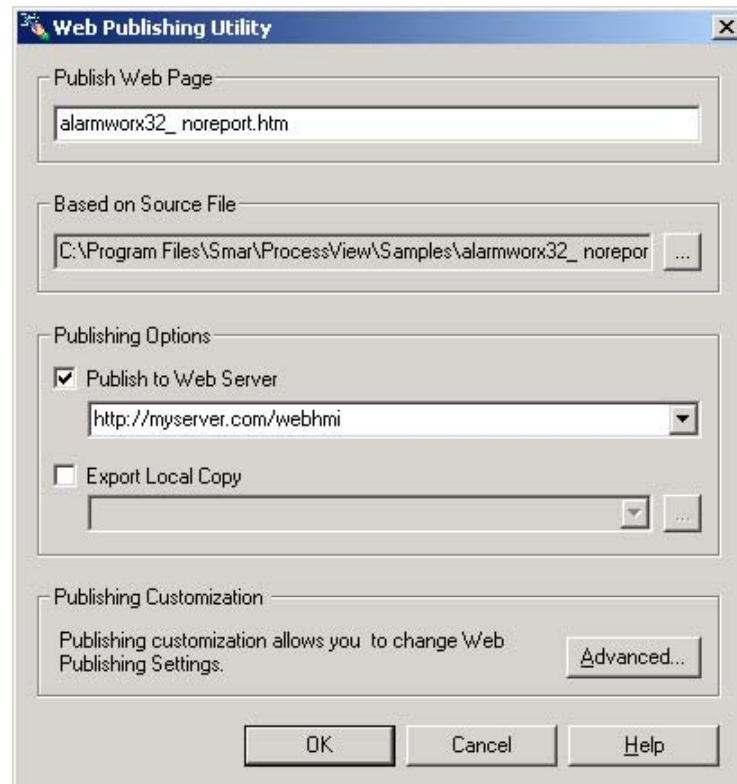

Figure 4.4. Web Publishing Wizard Dialog Box
- This launches the **Web Publishing Wizard** configuration dialog box, as shown in **Figure 4.4**. This dialog box serves as the interface through which you export/publish GraphWorX display files to the Web.